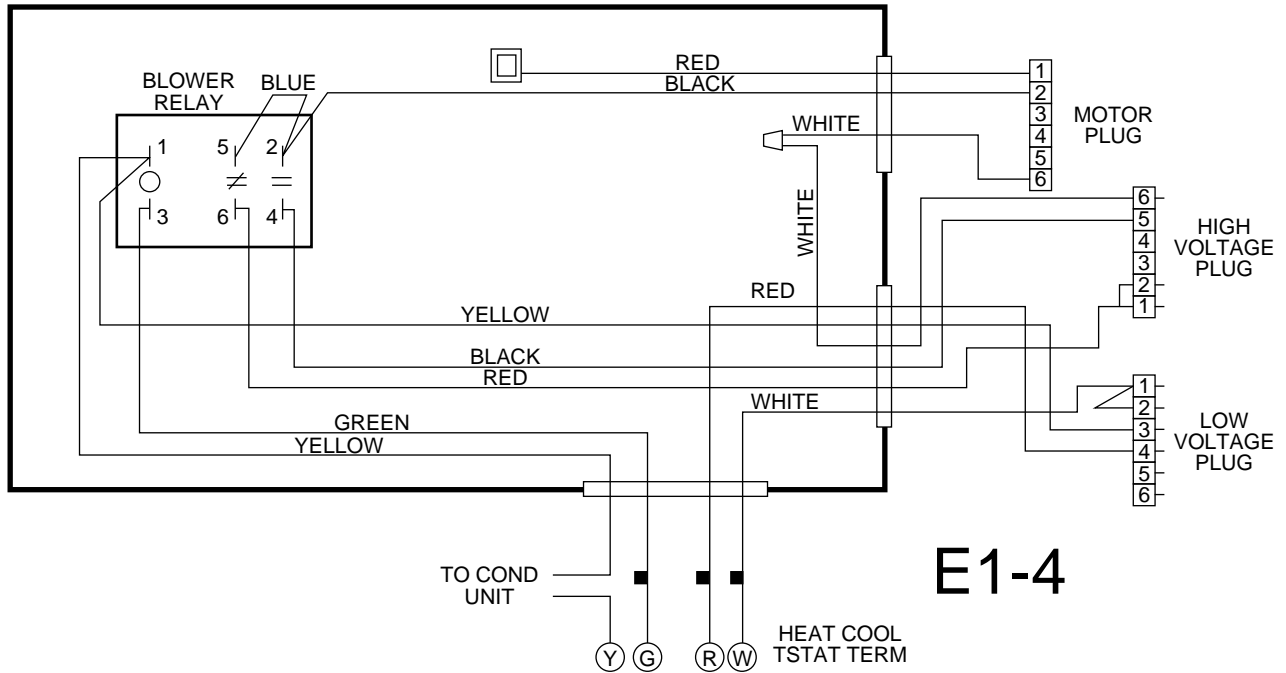

Fig. 3—Wiring Diagram for KMACC0401E14 Control Box
- 4. Connect low-voltage wiring per Fig. 3.